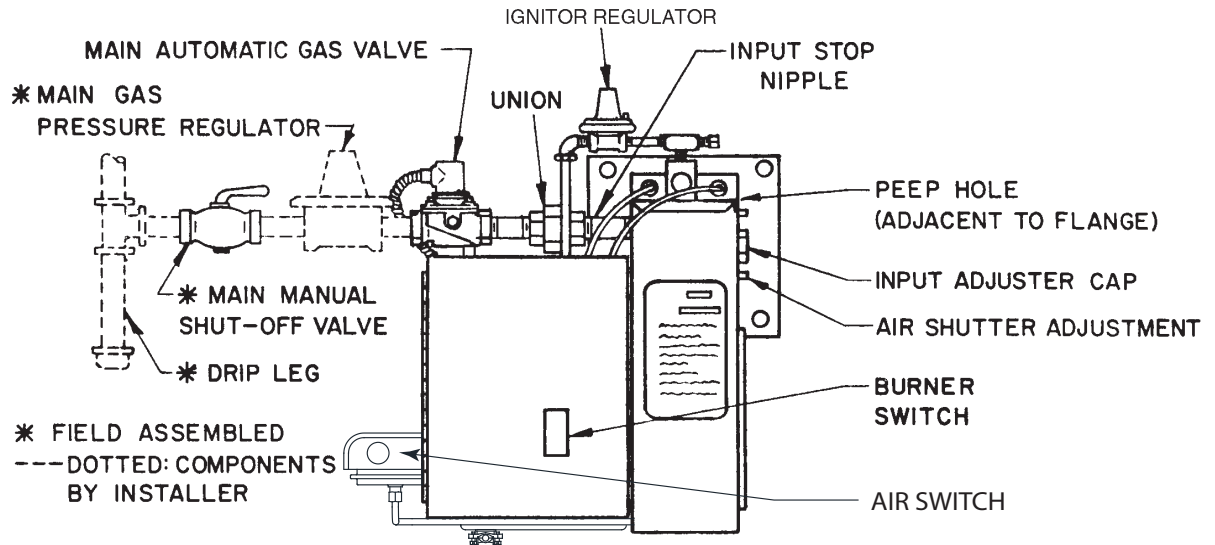
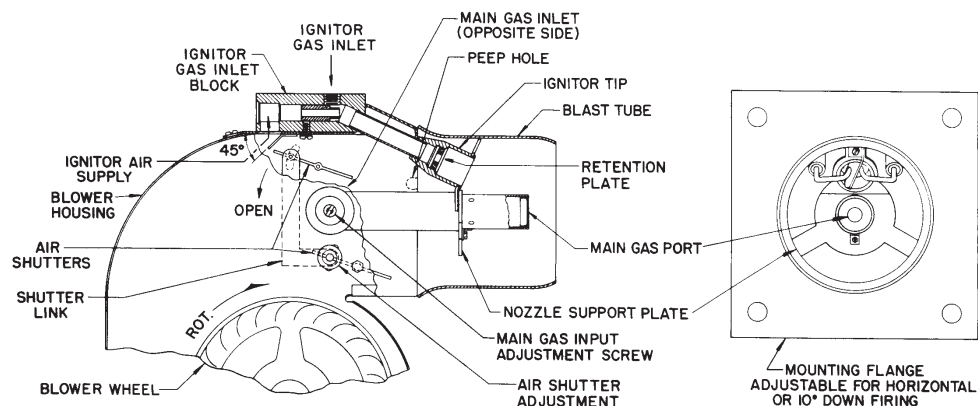

Figure 3 Control Components
Figure 4 General Burner Assembly
- Use pipe joint compound resistant to liquid petroleum gases when using either NATURAL or PROPANE gas. Piping must comply with the local and national codes. If the burner piping must be rearranged because of space limitations, be sure to carry out the general configuration shown in Figure 3.
⚠ CAUTION: When adjusting the regulator, take note of the supply pressure. If gas supply pressure is below its specified range during adjustment, an over-fire condition could result when pressure returns to normal, particularly if the regulator adjustment screw is BOTTOMED OUT. ALWAYS confirm that at least the minimum rated pressure is being supplied to the ignitor during regulator adjustments, and NEVER BOTTOM OUT regulator screw. Operate air shutter throughout range to confirm Ignitor stability. Try several relights. Refer to Figure 4.
10. Remove the input adjuster cap (see Figure 3) and, with the Ignitor and Main Flame on, turn the Main Gas Input Adjusting Screw (see Figure 4) until the desired input rating is reached (refer to Table 2). Turning of adjustment screw counterclockwise increases gas flow; clockwise reduces flow. If Main Flame gas pressure requires adjustment, refer to SECTION V PIPING SUPPLY.
- Check that the Ignitor Air Deflector is at the correct angle (45°). See Figure 4.